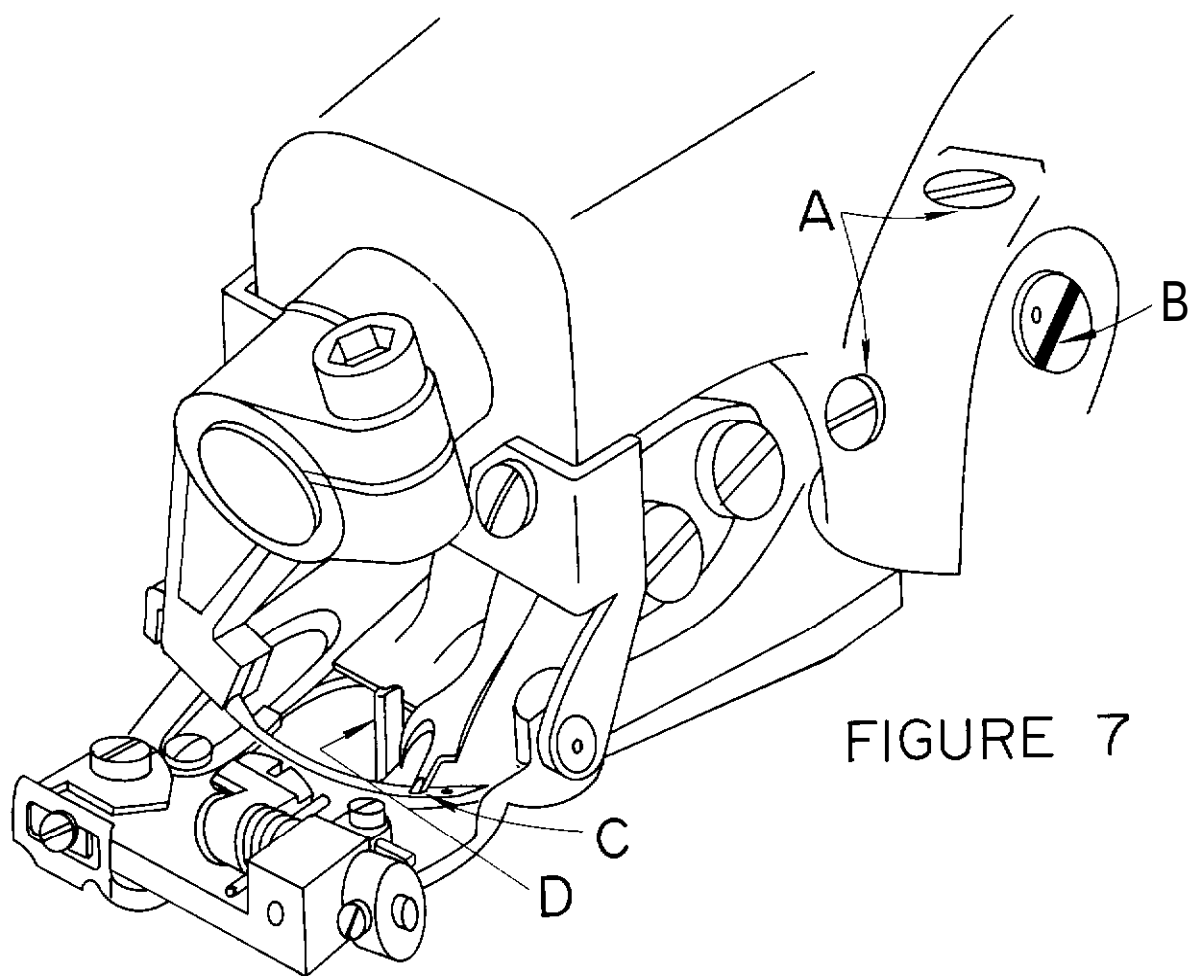

FIGURE 7
2. Any time a looper is moved or changed, recheck the looper timing and reset if necessary. Proper looper timing is absolutely essential for correct stitch formation. As described in detail below, a properly timed looper will pass over the needle in the correct position to pick up the loop, and also clear the chain-off pin, feeder, looper slot, and needle. The first check point for timing the looper is at the position where the looper picks the thread loop off the needle during the needle return stroke. Referring to Figure 7, (Point "C"), the long prong of the looper should pass over and just clear the scarf of the needle, approximately $3/32"$ (2.4mm) behind the end of the needle eye. At the same time, the short prong of the looper should pass over the needle with about $1/64"$ (.406mm) clearance, and must be so set that it also clears the chain-off pin (item "D" in Figure 7).
5. If, after completing the above adjustments, it is found that the looper is either too low or too high, it will be necessary to adjust the eccentric stud. First loosen the two set screws (item “A” in Figure 7). Place a wide blade screwdriver in the slot of the eccentric stud (item “B” in Figure 7) and, using a slight turning motion, raise or lower the looper as required. Once the proper height is established, check to see whether the looper must be moved to the left or to the right prior to **retight-**ening the eccentric block set screws. If such a movement is required, it may be obtained by lightly tapping the eccentric block in the correct direction with the handle of a screwdriver.
1. After considerable service, it may become necessary to replace the chain off pin, (Item "D" in Figure 7).